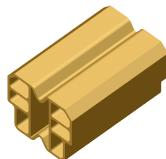

Figure 11:
1. A head bumper can be installed (Figure 11) in the head of each sliding panel track unless the panels contain door collectors, wind load adapters or high-performance extrusions. See the Multislide drawing provided at the time of the order for exact length and number of door bumpers.